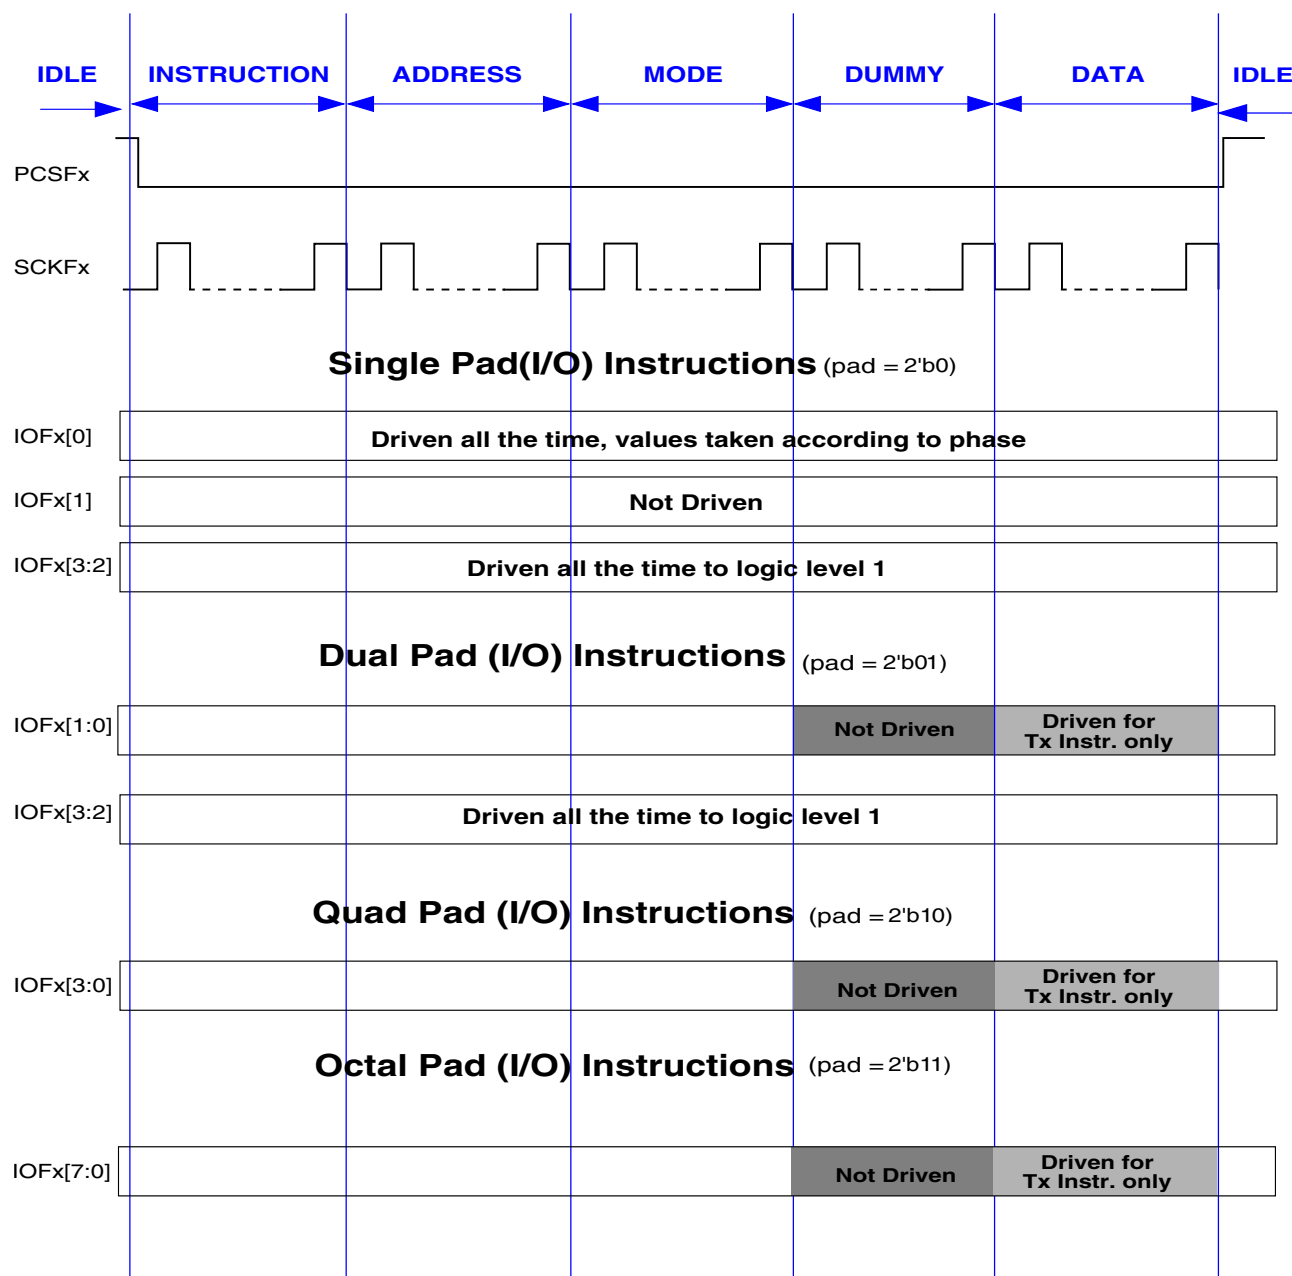

Figure 33-3. Serial Flash Access Scheme
- **DUMMY:** Dummy clocks are provided to the serial flash device. Refer to the Figure 33-3 for the IOFx signals driven. The actual data lines required for the SFM Command executed are not driven for data read commands. Note that this phase is not applicable for all SFM Commands.